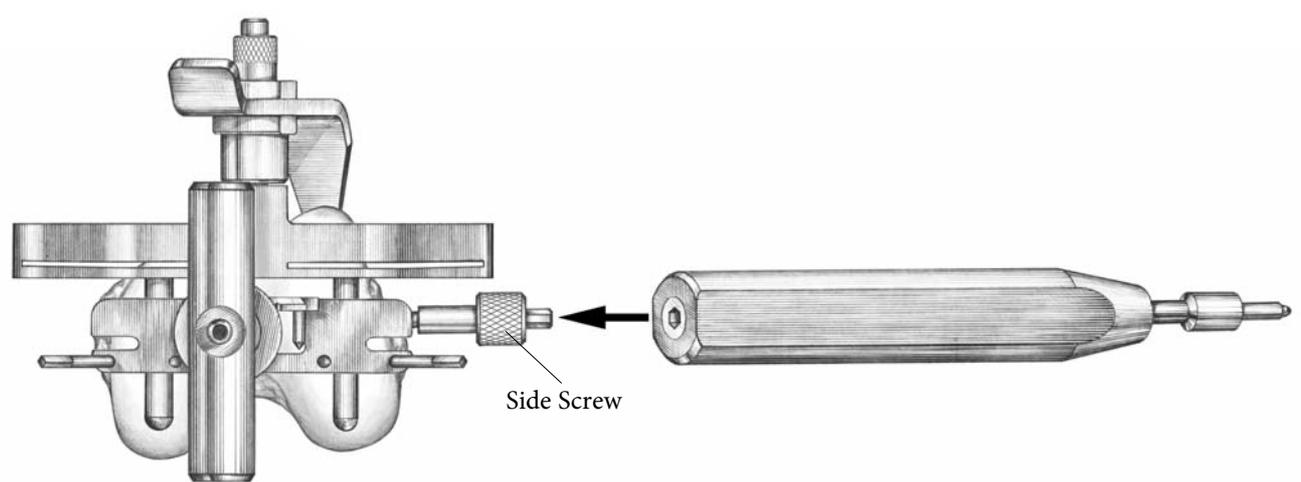
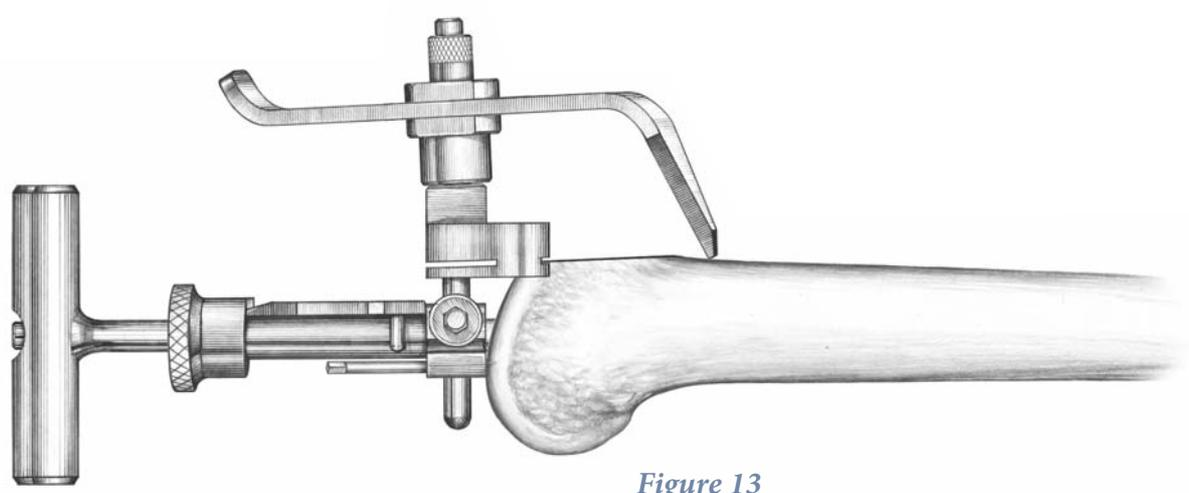

Figure 12
Figure 13
- ▶ Tighten the side screw with the hex wrench to lock the resection guide in place (Figure 12). The stylus can be removed before the resection is made. Use a .050" (1.25mm) thick sawblade to make the resection (Figure 13).